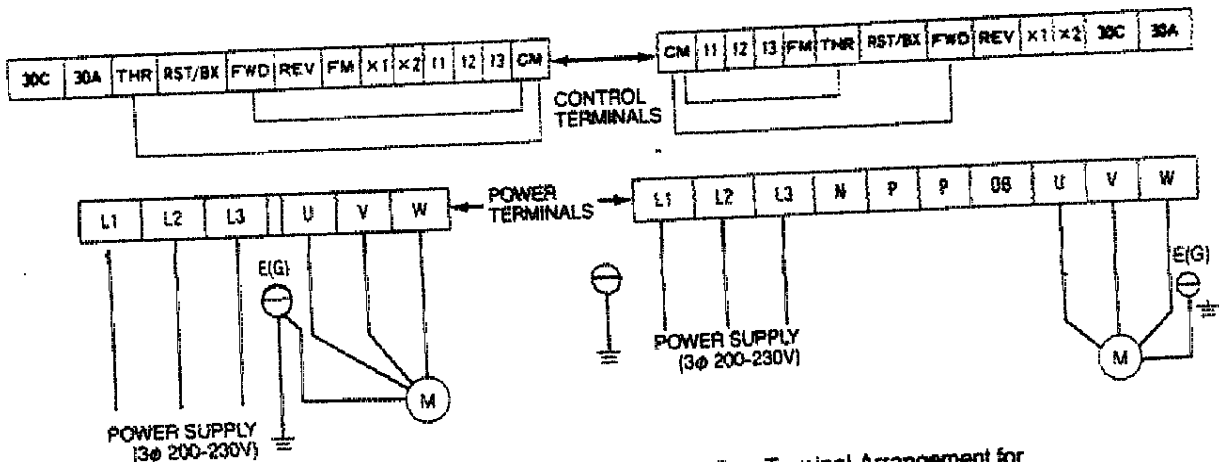

Figure 6 — Terminal Arrangement for Models 1XC93 thru 1XC95
8. Ground terminal connections [E(G)]. Be sure to ground the inverter so as to prevent malfunctions due to external noise. See Figure 6 and 7.